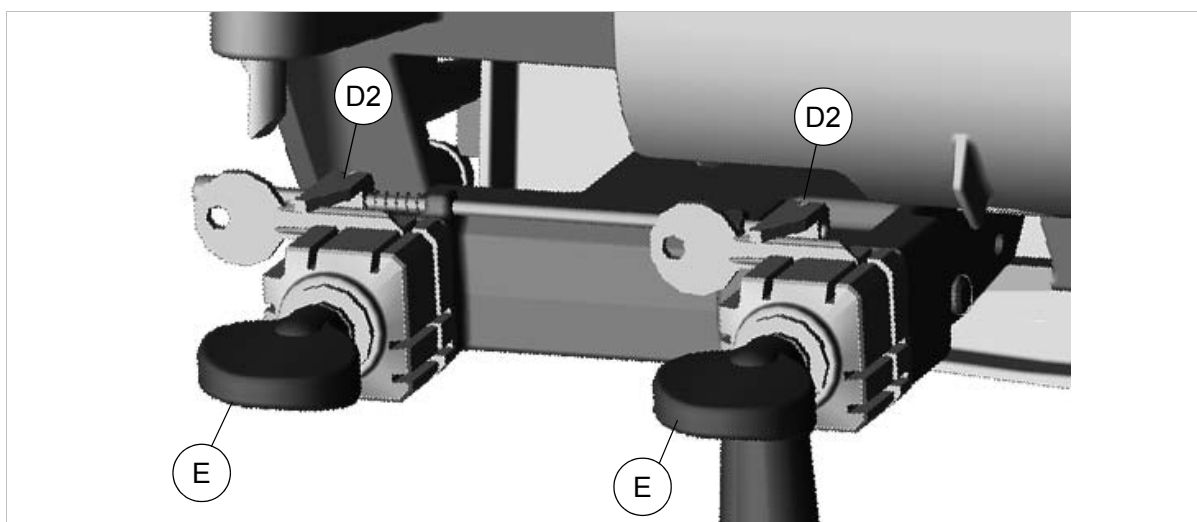

Fig. 33
- b) the key stop is resting against the calibration tabs (D2) (fig. 33);
- 2) secure the keys by closing the clamps with the knobs (E).